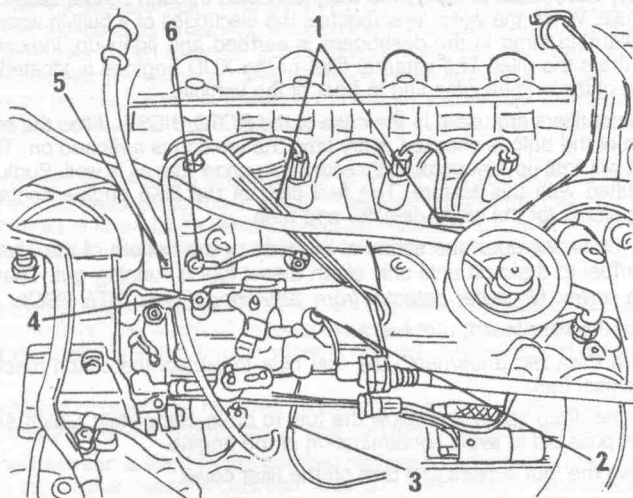

Fig. 1.79. — Removal of Roto Diesel (Lucas) injection pump. The numbers are referred to in the text.
tures and the engine speed and of the the position of the accelerator pedal. Two sensors, shown in Fig. 1.79, for the coolant temperature (7) and the engine speed
- Refer to Fig. 1.79, locate the accelerator cable and disconnect it. Also disconnect the fast idle cable.
- Disconnect the fuel feed pipe (3) and the fuel return pipe (5) in Fig. 1.79 and the overflow return pipe (4) from the injectors.
- Disconnect the supply to the electric shut-off solenoid (2), the injector feed pipes (1) and the glow plug connector (6) from the No. 4 cylinder.